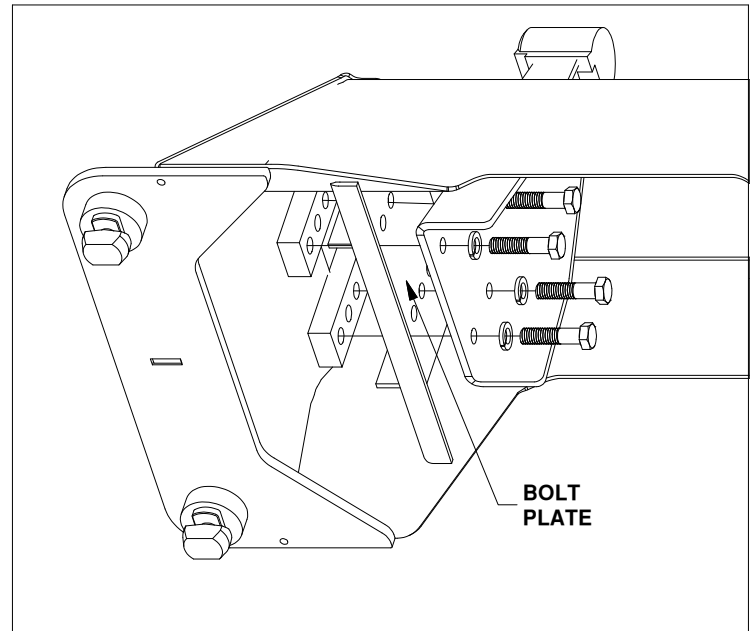

Figure A2: Passenger pivot arm mounting location.
2. Locate both pivot arms, the four threaded blocks, eight 1/2" cap screws, and eight 1/2" split lock washers. Place the lock washers over the cap screws. Align the flat side of the pivot arm flat against the bolt plate and install four 1/2" cap screws through the holes on the arm, holding the arm in place, as shown in Figure A2. Locate the threaded blocks. Note that the sides of the block have threaded holes on one side and smooth bored holes on the other side. When installing the threaded blocks it is critical that the side with the smooth holes is flat against the bolt plate when installed. It is also critical that each of the five holes in the threaded block match up with the five vertical holes in the bolt plate. Pass the threaded block under the bases side and align the block with each set of screws and start each screw, as shown in Figure A2. After all the screws are started through the arms, torque each bolt to 110 ft-lbs.